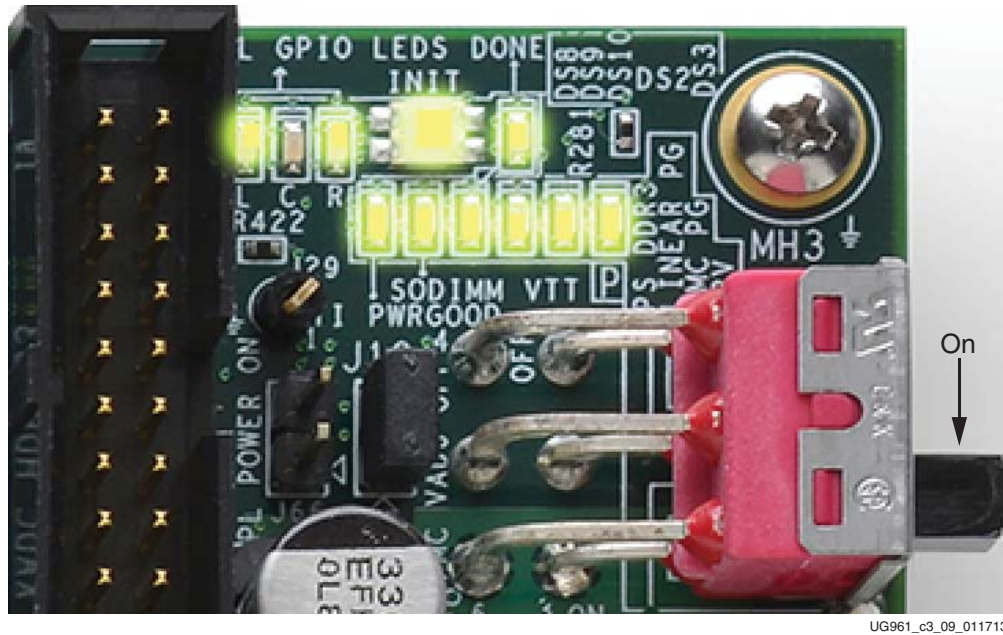

Figure 3-9: SW12 in the ON Position
1. Switch SW12 on the ZC706 board to the ON position (as shown in Figure 3-9).
2. Power on the PCIe host system. The Zynq-7000 PCIe TRD provides PCIe status on the GPIO LEDs near the ZC706 board power switch (Figure 3-9). The LEDs that should glow are listed in Table 3-1 (L is the left-most LED in row 1, and LED1 is the left-most LED in row 2.)